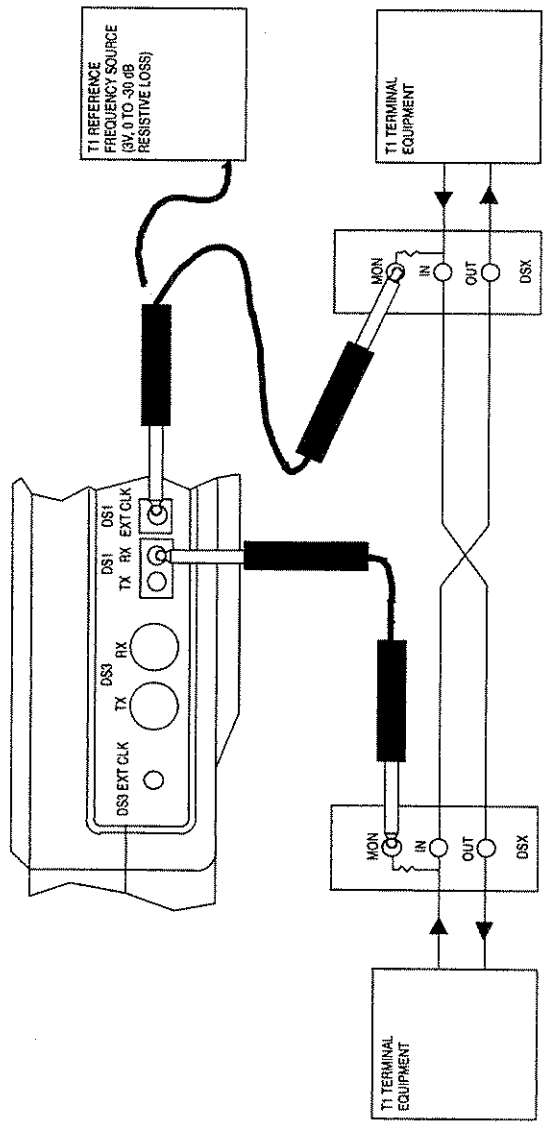

Figure 1.16.A Typical SLC-96 system configuration
SLC-96 systems carry up to 96 channels of customer traffic. Do not use the test setups shown in Figures 1.16.B and C unless you have been properly trained. Use the setups shown in Figures 1.16.B and C only in conjunction with a SLC-96 maintenance manual. Verify through that manual that your planned maintenance activities will not cause a disruption in service.
Three typical SLC-96 maintenance applications are discussed in this section. The applications cover in-service data link monitoring, out-of-service testing, and in-service digroup testing. Use figure 1.16.A as a guide for each of these applications.
- 3) Connect the test set to the circuit as shown in Figure 1.16.B.